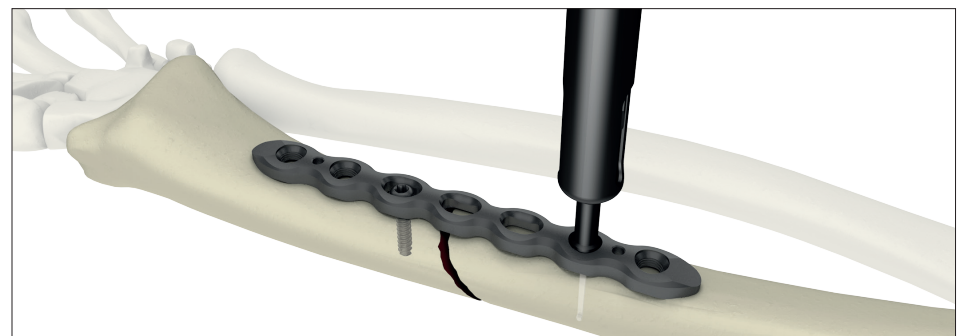

Fig. 15
2. Use the depth gauge (ref 705012, fig. 15).
The appropriately sized locking screw is then inserted using either the screwdriver T20 (ref 705021) (fig. 15) or the screwdriver bit T20 (ref 705020) with a selected handle (teardrop handle small (ref 702429) or the T-handle (ref 702430)).